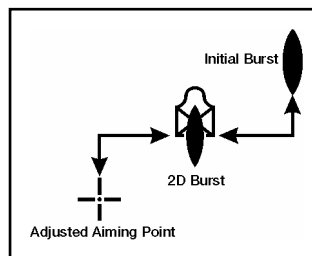

Figure 071-312-3031-3. Adjusting the aiming point
5. Adjust fire using the adjusted aiming point method (figure 071-312-3031-3).